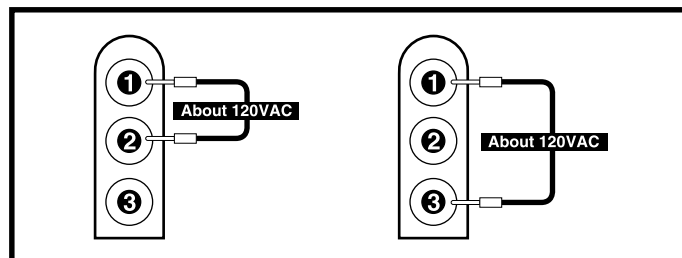

Figure 16. Connector 7a
15. Measure AC voltage across pin 1 and pin 3 on connector 7a and across pin 1 and pin 2 on connector 7a. **See figure 16.**
- *If your multimeter indicates 120VAC in both tests, then replace the battery charger (6) and retest the system.*